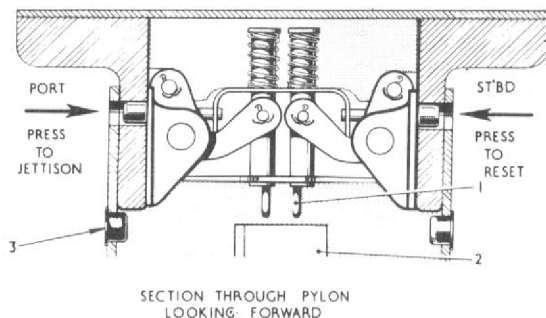

Fig. 6 Jettison and reset mechanism (outboard pylon)
- (1) Disconnect the Armament Safety break in the port wing.
- (2) Remove the pylon rear doors and disconnect the servicing breaks at all pylons i.e. inner and outboard, port and starboard.
- (3) Position the drop tank under the pylon and lubricate the front and rear spigots with anti-seize compound ZX-28. Inspect the sealing rings for serviceability and smear the outer surface of the rings with Hellerine fluid (Ref. 34B/1225).
- (4) Remove the Chekaleke plugs (3, fig. 6) from the sighting holes on the port and starboard sides of the pylon and check that the gap between the top of the release housing (2, fig. 6) and the bottom of the plungers (1, fig. 6) does not exceed 0.10 in.